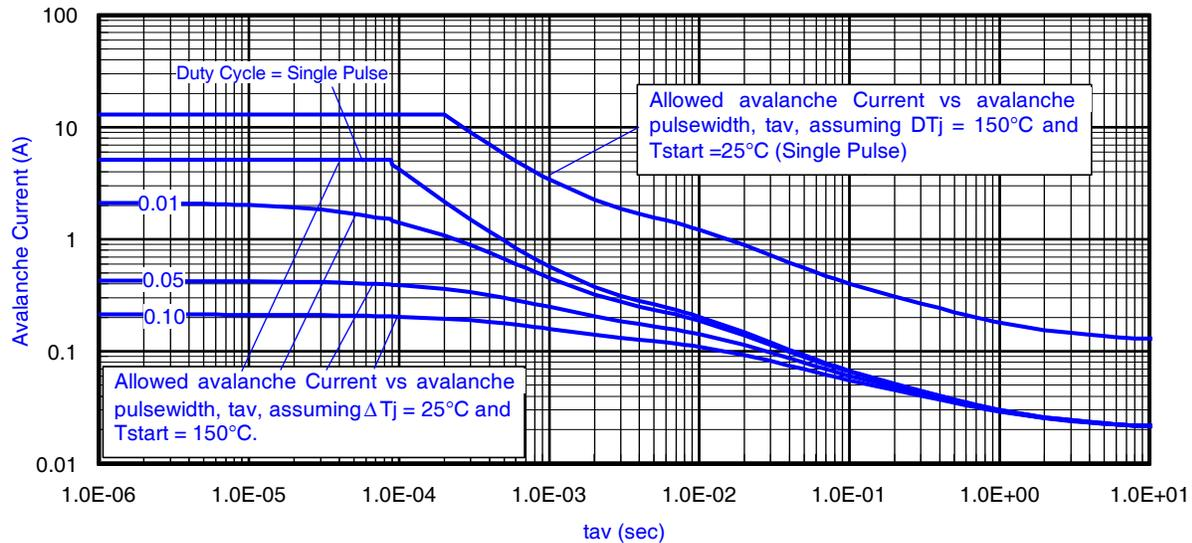

Fig 16. Typical Avalanche Current Vs. Pulsewidth
Notes on Repetitive Avalanche Curves , Figures 16, 17:
7. ΔT = Allowable rise in junction temperature, not to exceed T_{jmax} (assumed as 25°C in Figure 16, 17).